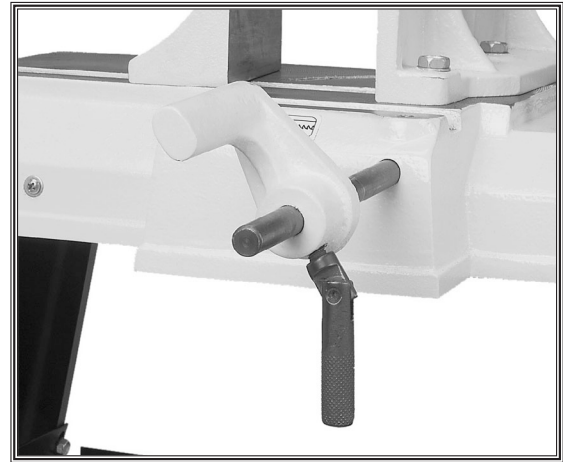

Figure 20. Work stop and lever.
- Use the work stop to quickly and accurately cut multiple pieces of stock to the same length (see **Figure 20**).